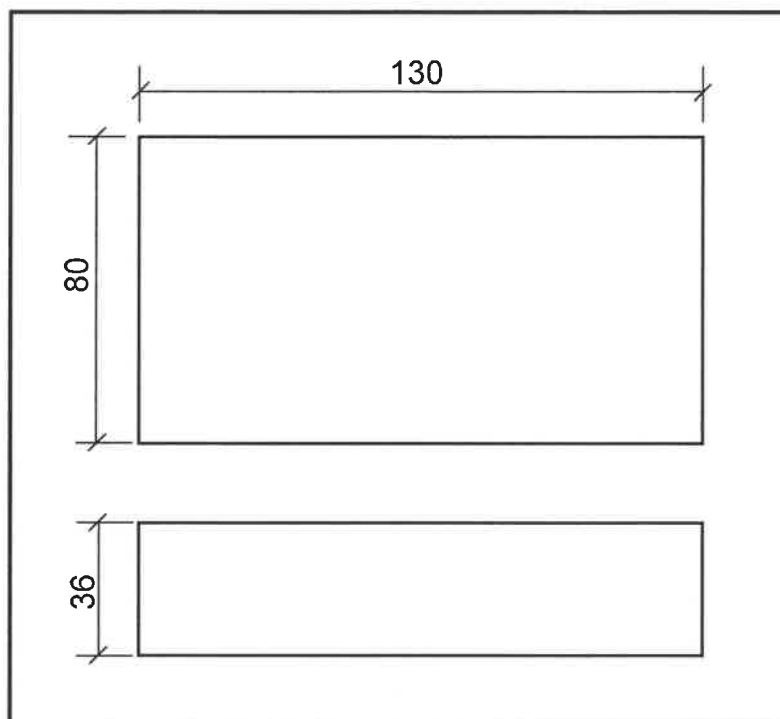

FIGURE 5.1
- 5.1 FIGURE 5.1 shows the front and top view of a stopped end of a gutter. Draw, in your ANSWER BOOK, the development of the stopped end with a closed top.